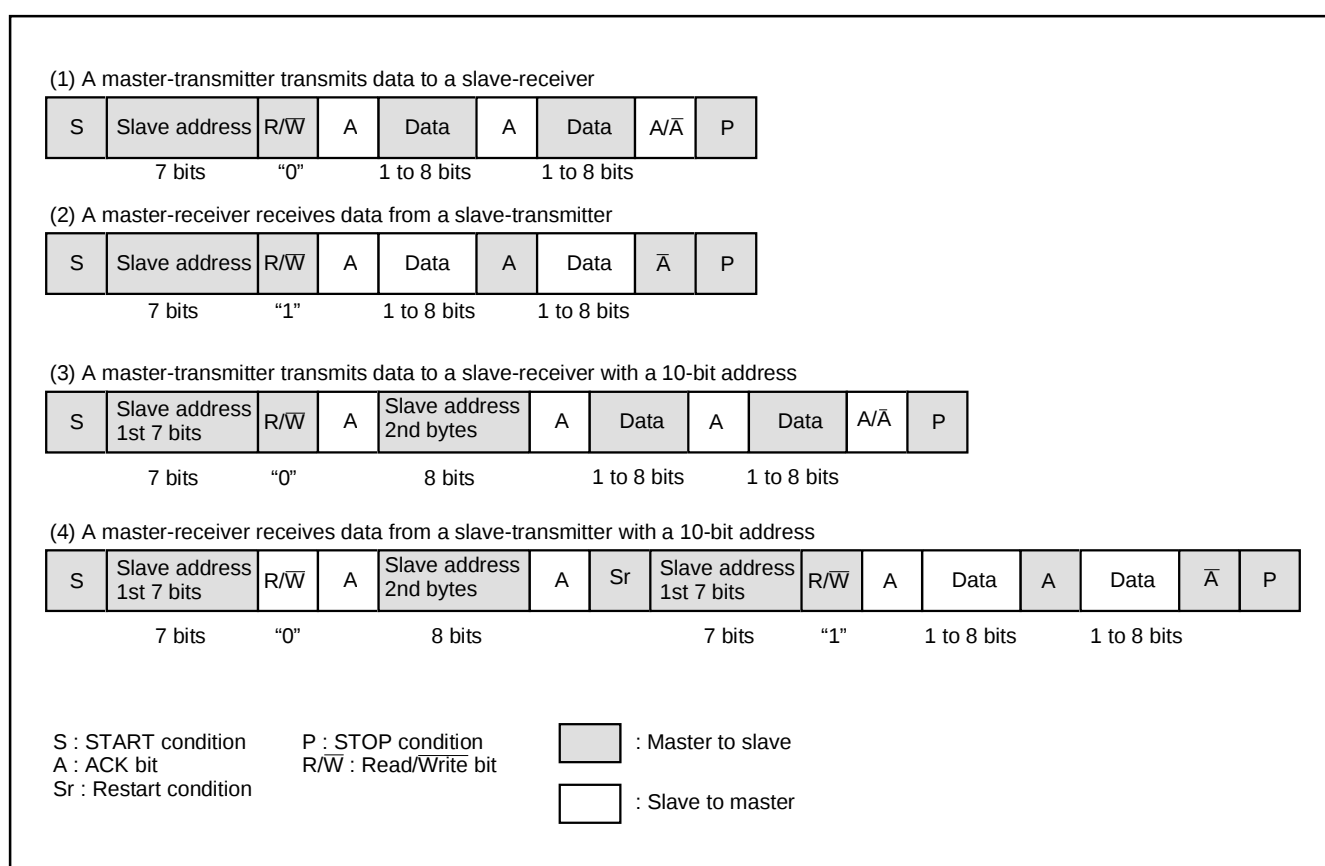

Fig. 77 Address data communication format
① 7-bit addressing format
To adapt the 7-bit addressing format, set the 10BIT SAD bit of the I²C control register (S1D: address 0014₁₆) to "0". The first 7-bit address data transmitted from the master is compared with the high-order 7-bit slave address stored in the I²C slave address register. At the time of this comparison, address comparison of the RWB bit of the I²C slave address register is not performed. For the data transmission format when the 7-bit addressing format is selected, refer to Figure 77, (1) and (2).
② 10-bit addressing format
parison, an address comparison between the RWB bit of the I²C slave address register and the $\overline{R/\overline{W}}$ bit which is the last bit of the address data transmitted from the master is made. In the 10-bit addressing mode, the RWB bit which is the last bit of the address data not only specifies the direction of communication for control data, but also is processed as an address data bit. When the first-byte address data agree with the slave address, the AAS bit of the I²C status register (S1: address 0013₁₆) is set to "1." After the second-byte address data is stored into the I²C data shift register (S0: address 0011₁₆), perform an address comparison between the second-byte data and the slave address by software. When the address data of the 2 bytes agree with the slave address, set the RWB bit of the I²C slave address register to "1" by software. This processing can make the 7-bit slave address and $\overline{R/\overline{W}}$ data agree, which are received after a RESTART condition is detected, with the value of the I²C slave address register. For the data transmission format when the 10-bit addressing format is selected, refer to Figure 77, (3) and (4).